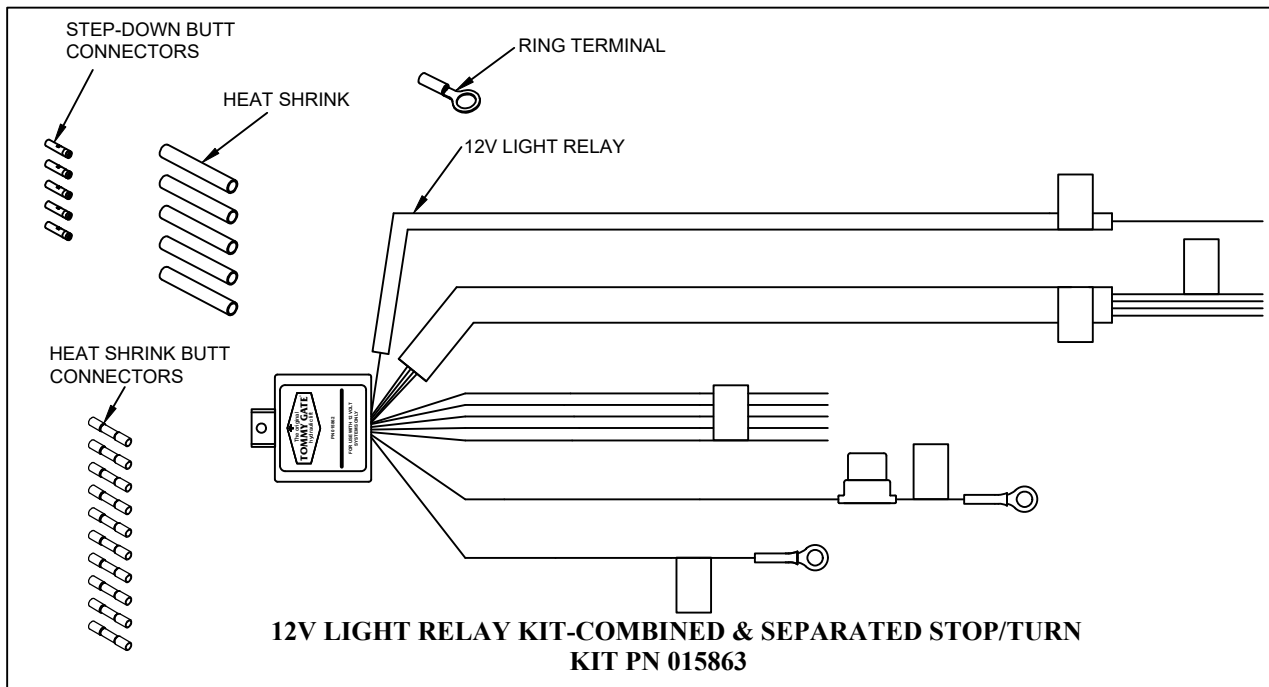

Figure 1: Part identification.
1. Verify the parts of the 12V Light Relay Kit-Combined & Separated Stop/Turn (Table 1 and Figure 1).